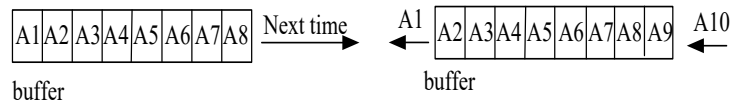

Figure 3-62
- Assuming setting the READING AVERAGE TIME = 8, AVERAGE METHOD:MOVING, the readings sampling is that the device removes the oldest sample in the buffer and saves a new sample, then average them in repetition as Figure 3-62 shows.